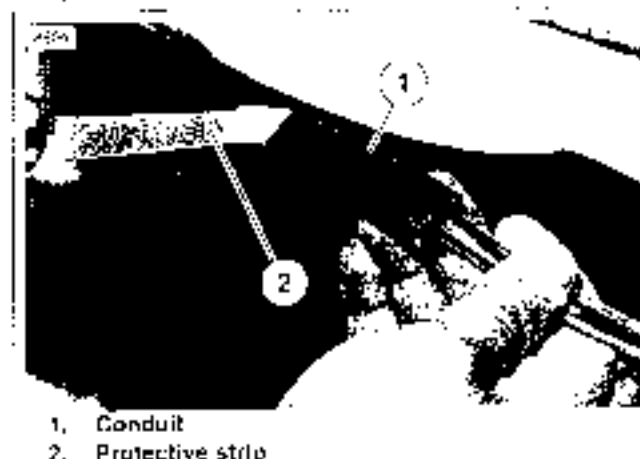

Figure 2-118. Removing Protective Strip From Conduit
4. Remove protective strip covering adhesive on conduit (see Figure 2-118) and lightly position the conduit in place.